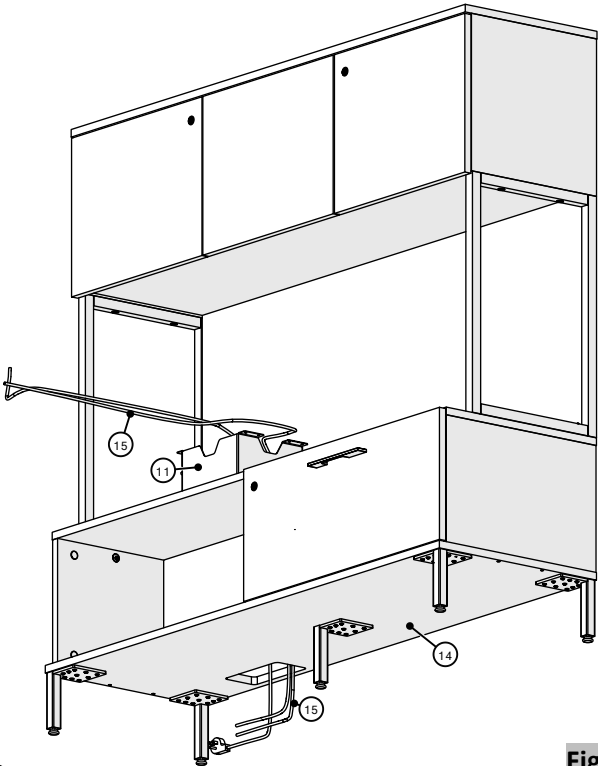

Figure 9
- 10.** Fish wires and cables through desk support box, (Figure 9).